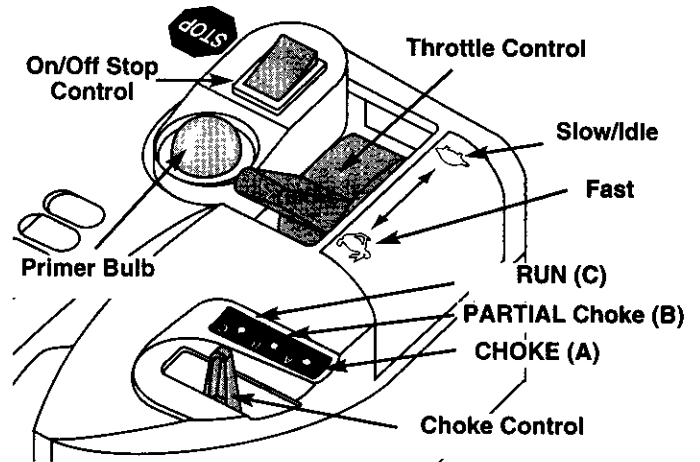
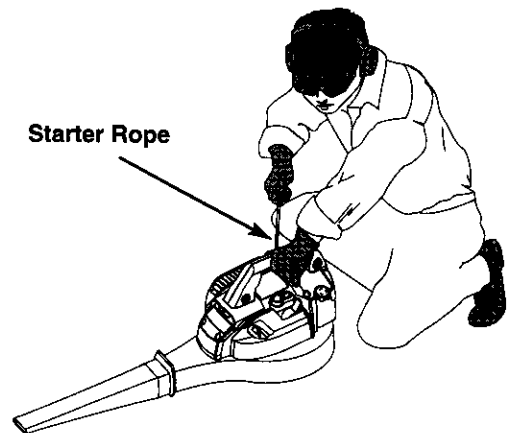

Fig. 10
Fig. 11
1. Set the throttle control to the idle position (  ) (Fig. 10).
2. Press and hold the On/Off Stop Control down in the STOP position until the engine comes to a complete stop (Fig. 10).
**NOTE:** Mix gas with oil (40:1 ratio). See gas and oil mixing instructions on page 10. Fill your unit with oil and gas mixture and hold unit firmly when starting (Figs. 11 & 12).
**NOTE:** The On/Off Stop Control is a momentary switch and is always in the ON position (Fig. 10).
1. Fully press and release primer bulb slowly 5 to 7 times. Fuel should be visible in the bulb (Fig. 10). If fuel is not visible, press three (3) more times, or until it is.
2. Move choke lever (Fig. 10) to **CHOKE** (  ) **A**.
3. Place the throttle control in the fast position (  ) and pull starter rope (Figs. 11 & 12) until engine attempts to start (1-3 pulls).
5. Pull starter rope (Figs. 11 & 12) until engine attempts to run (1-3 pulls).
6. Move choke control to RUN (  ) **C** position (Fig. 10). Pull starter rope (Figs. 11 & 12) until engine starts (1-7 pulls).
**NOTE:** If the engine floods while trying to start, place the choke control in the RUN (  ) **C** position. Move the throttle control to the fast position (  ) (Fig. 10). Pull the starter rope briskly. The engine should start with three (3) to eight (8) pulls.
**NOTE:** For a warm engine, go directly to Step 6. Move choke to RUN (  ) **C** position and the throttle control in the fast (  ) position. Pull starter rope (Figs. 11 & 12) until engine starts (1-7 pulls).